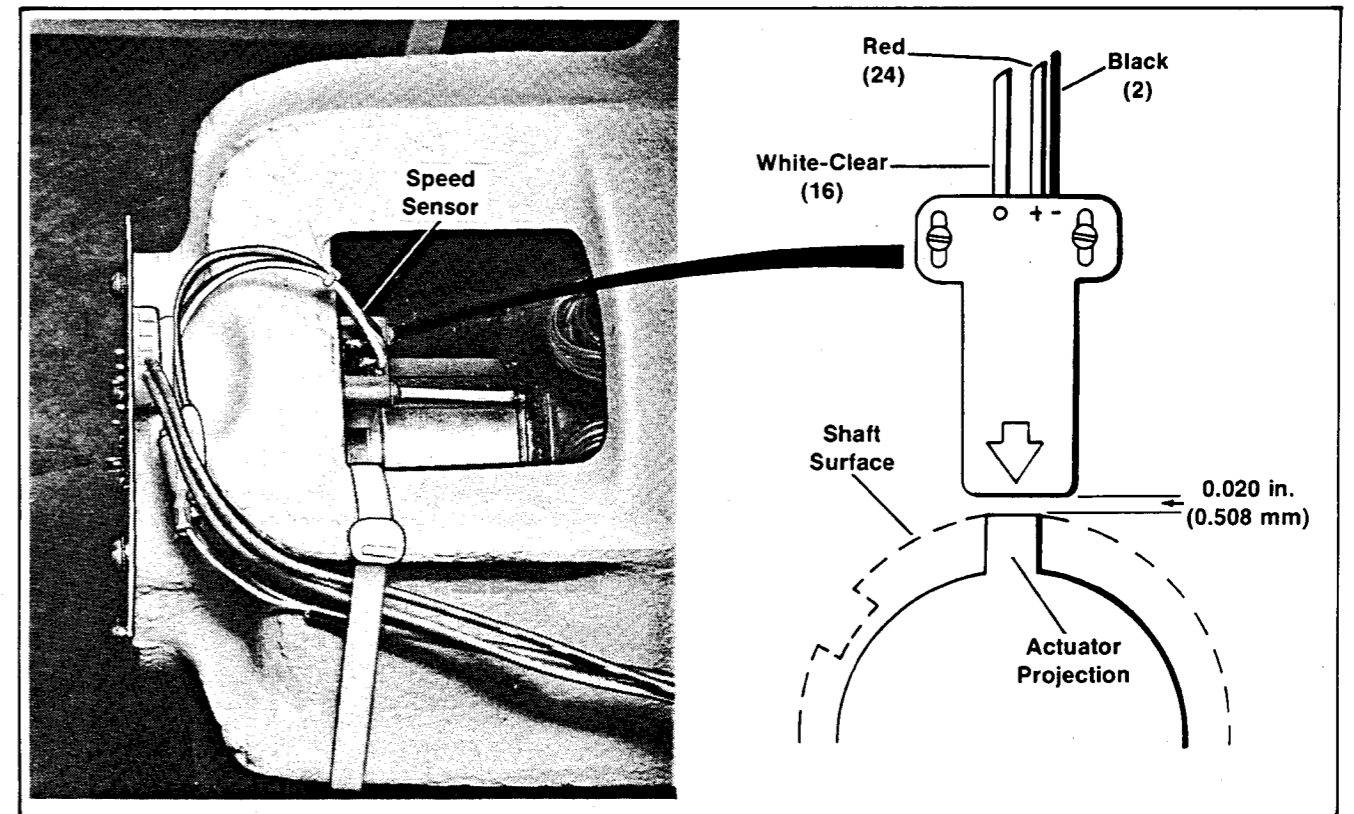

Figure 3-13. Speed Sensor
- set speed sensor air gap at 0.020 in. (0.508 mm) between shaft's surface and sensor, or actuator projection and sensor, depending on model. See Figure 3-13.
- set speed sensor air gap at 0.020 in. (0.508 mm). See Figure 3-13.